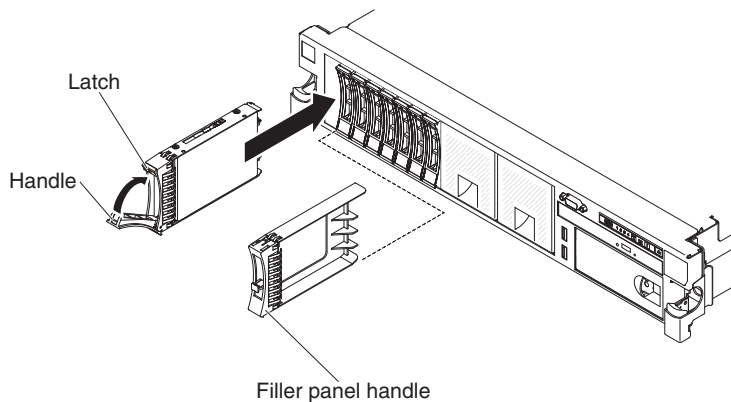

Figure 122. Removing a 2145-DH8 boot drive
5. Gently pull the drive assembly from the slot, as shown in Figure 122 on page 146.